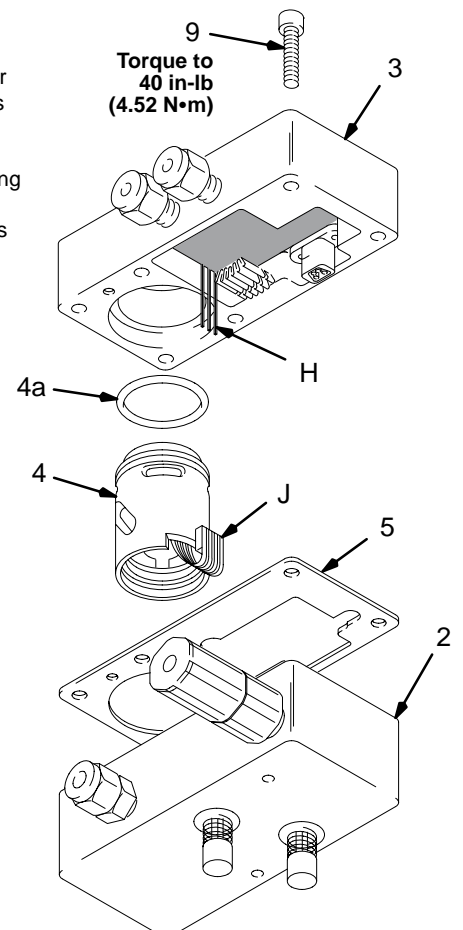

Fig. 4
1. Remove the top chassis (3) from the bottom chassis (2). See Fig. 4.
2. Disconnect the 3-pin connector (J) from the square pins (H).
3. Carefully pull the alternator (4) away from the top housing.
4. Using an ohmmeter, test the coil in the turbine alternator. Measure the resistance between the two outer terminals of the 3-pin connector (J). The resistance should be 3–5 ohms. If the reading varies from this value, replace the alternator (4).
6. Insert the alternator (4) into the top chassis (3).
7. Connect the 3-pin connector (J) to the 3 square pins (H) in the top chassis (3).
8. Check to see that the gasket (5) is not damaged. If damaged, replace the gasket.
10. Install and tighten the chassis screws (9) to 40 in-lbs (4.52 N•m).